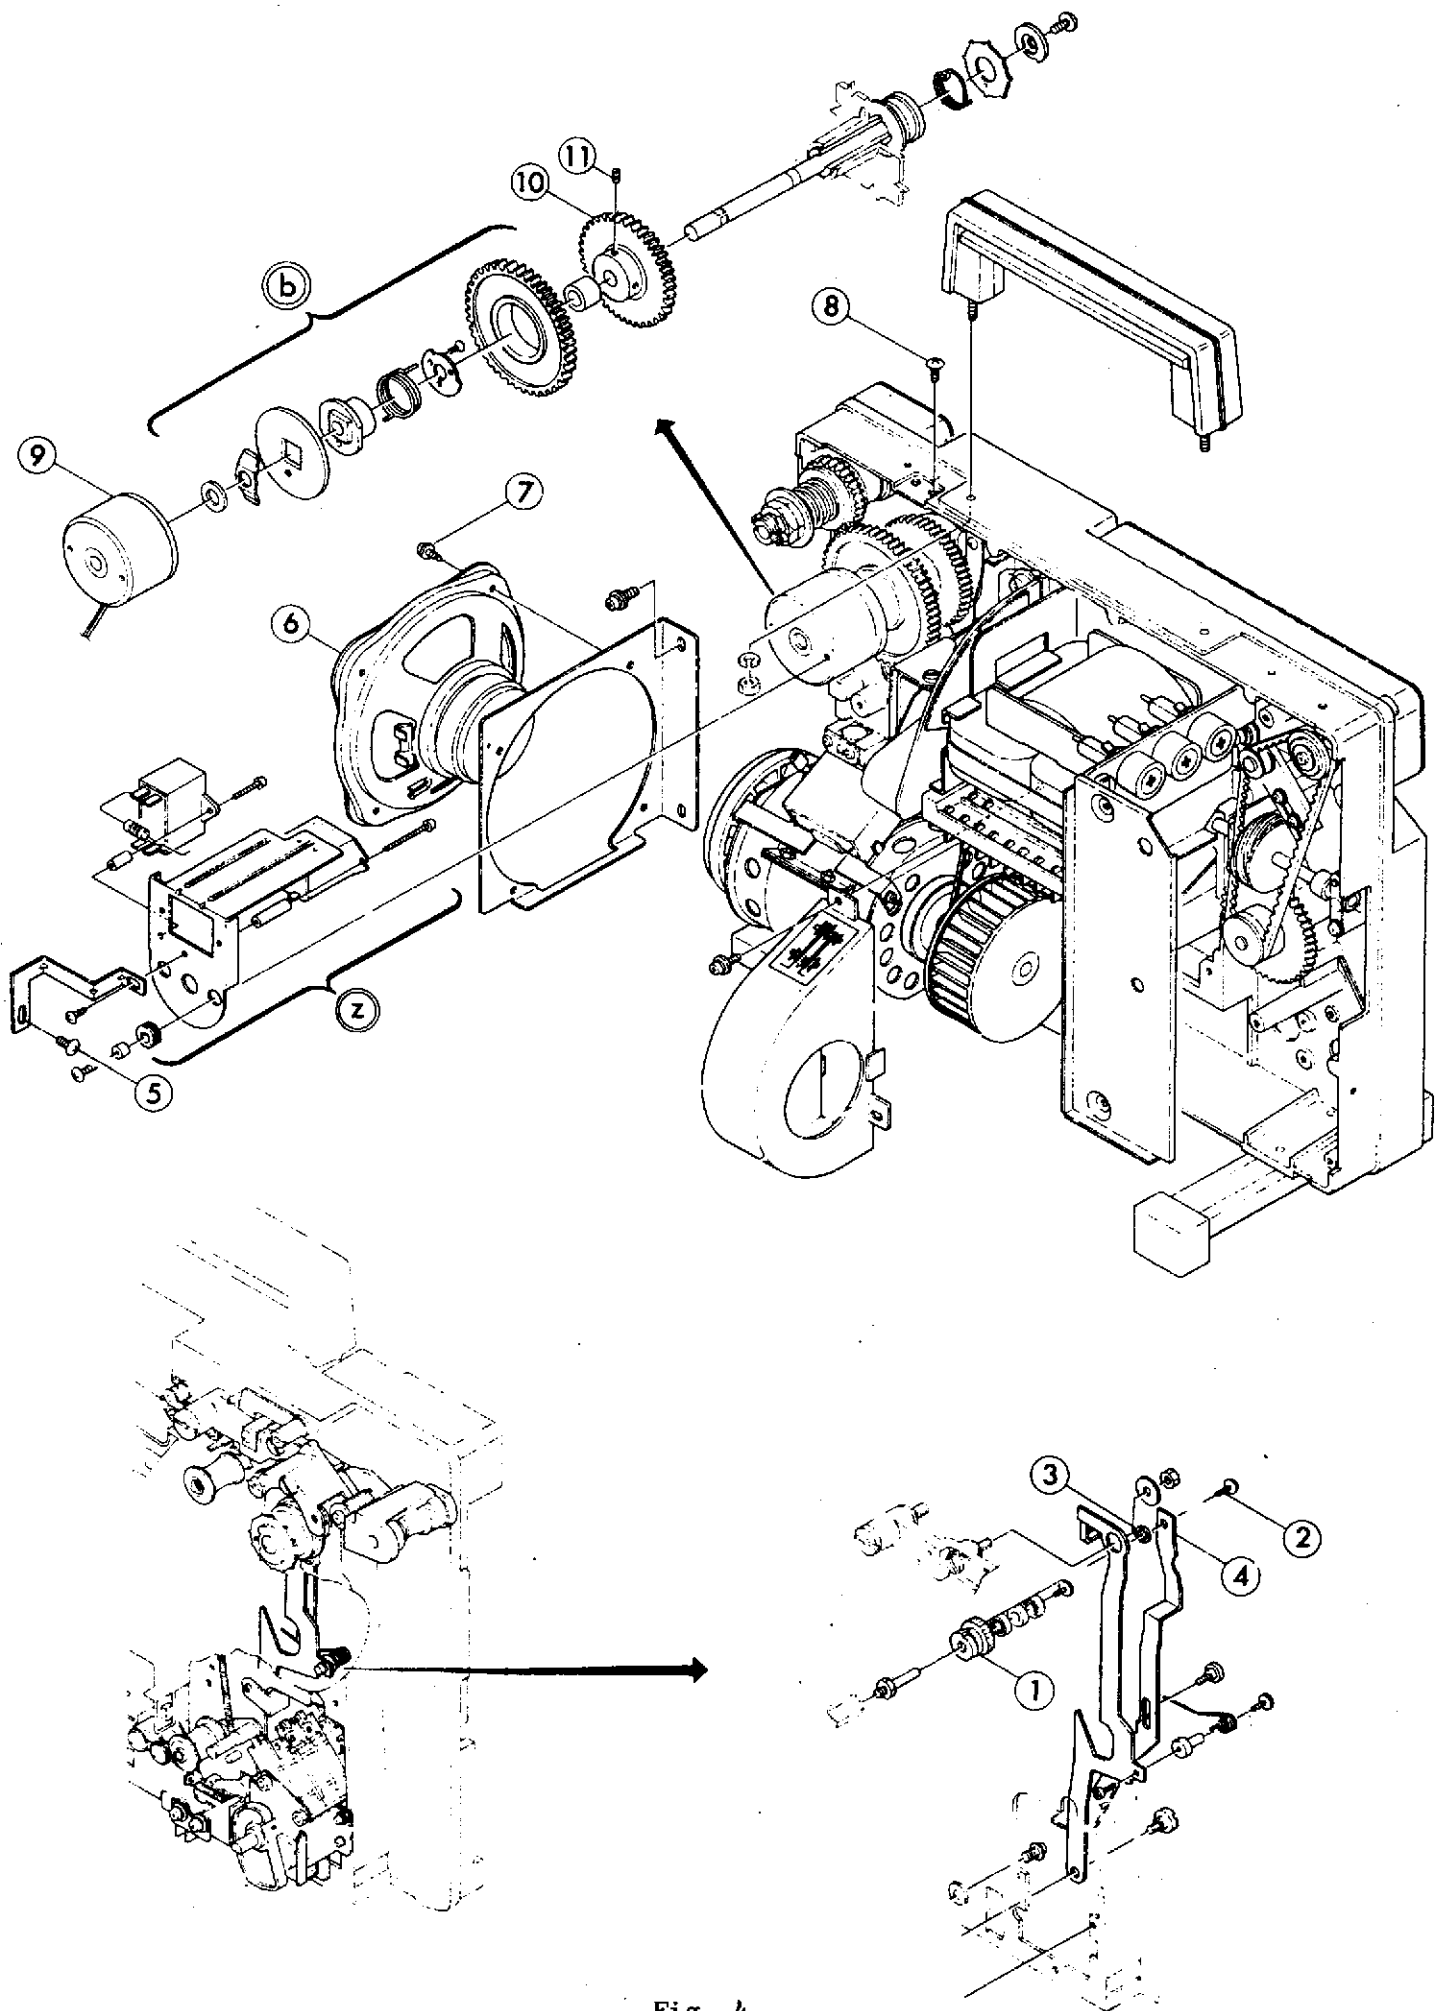

Fig. 4
- (4) Remove Fig. 4-9 by loosening 2 rotor attaching screws of Fig. 4-9 and remove (b) in Fig. 4 together.